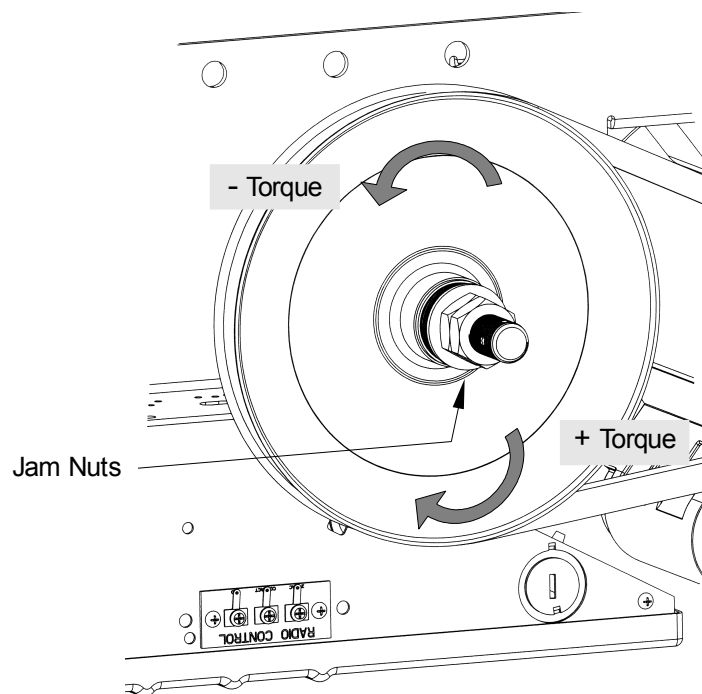

Figure 29 - Clutch Adjustment
1. Unlock the jam nuts with two (2) 7/8" keys, refer to Figure 29.